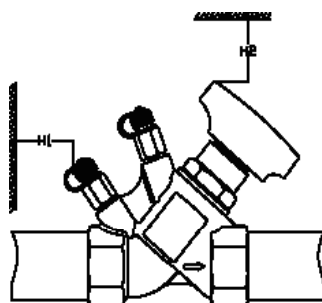

Figure 2
8. Please reserve debugging space during installation, see the Fig.2 and Fig.3:
2. Open valve to the preset value. (Figure 2)
How to check the preset value: close the valve and the reading is 0.0 ring. Turn handwheel until it stops and the reading is default value (It is 4.5 ring, see figure 2).